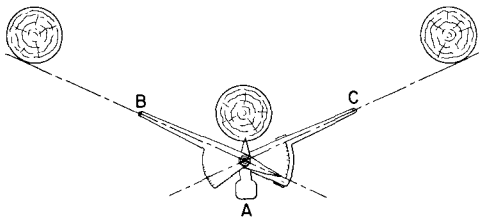

Fig. 4—Determining Corner Pull With C Pull Finder
5.01 To determine the pull at a corner pole by use of the C pull finder, screw the short arm A into the corner pole, as illustrated in Fig. 4. Adjust arm C so that the line of sight, when sighting over the back sight and the front sight on arm C, is tangent to the surface of the pole adjacent to the corner. In a similar manner, line up arm B, sighting on the other pole adjacent to the corner. Check arm C to make certain it has not moved. The pointer on arm B now indicates, on the scale on arm C, the pull in feet at the corner.